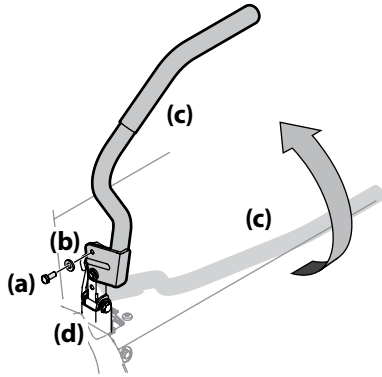

Figure 2-6
1. Remove the hex screws (a) and flat washers (b) from the hardware pack in your manual bag. See Figure 2-6.
2. Lift and swing that control lever (c) upward until the slotted hole in the control lever (c) bracket aligns with one of the holes in the pivot bracket (d). See Figure 2-6.
3. Slide the flat washer (b) onto the hex screw (a). From the outside, insert the hex screw (a) with the flat washer (b) through the control lever bracket (c) and the hole of the pivot bracket (d). See Figure 2-6. Using a 1/2" wrench snug the hex screw (a), but do not fully tighten.